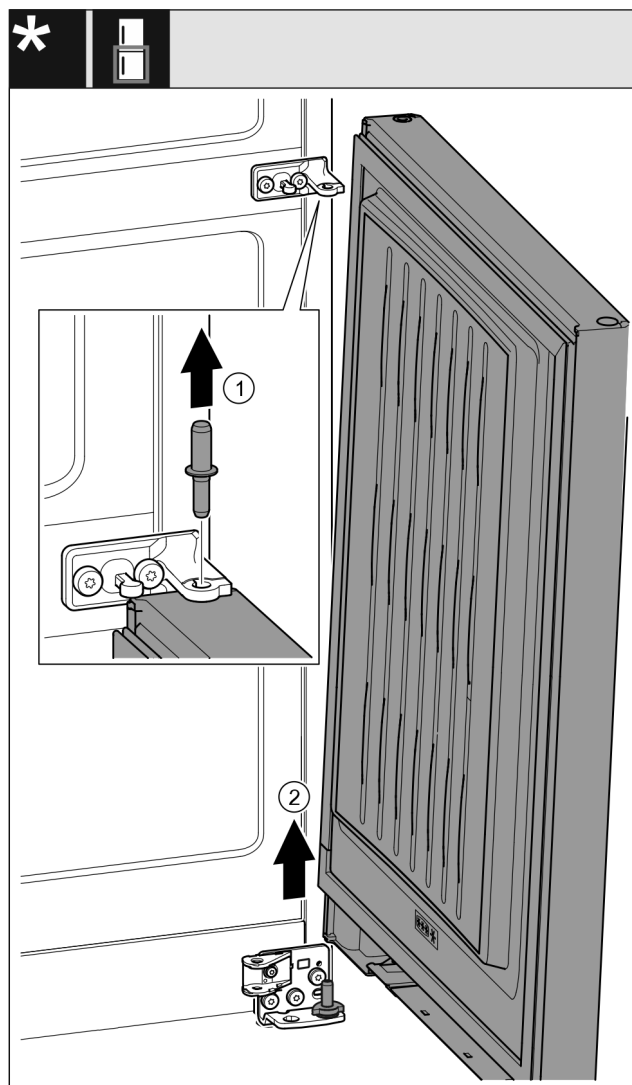

Fig. 21 \*
- ▶ Pull out the bolts toward the top. Fig. 21 (1)\*
- ▶ Swing the door out, pull it upward and set it aside. Fig. 21 (2)\*